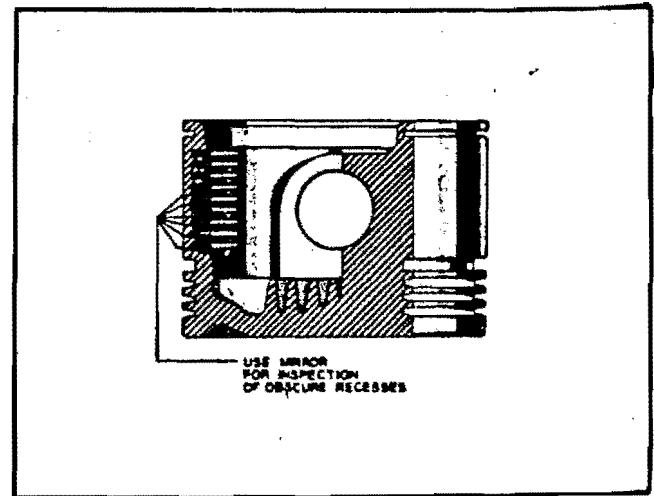
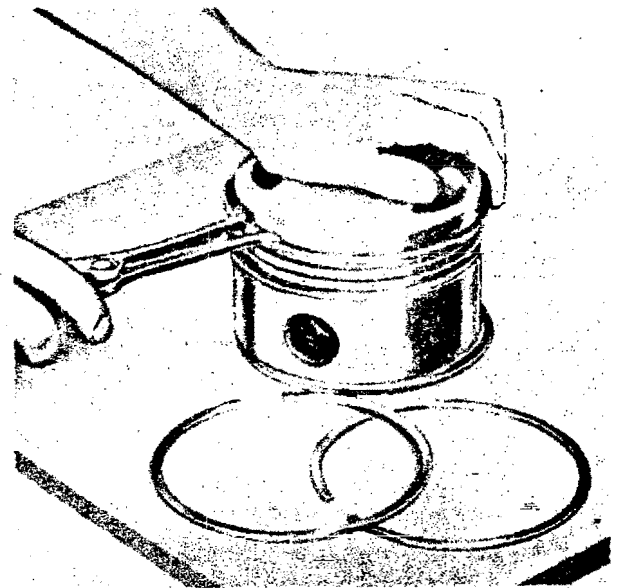
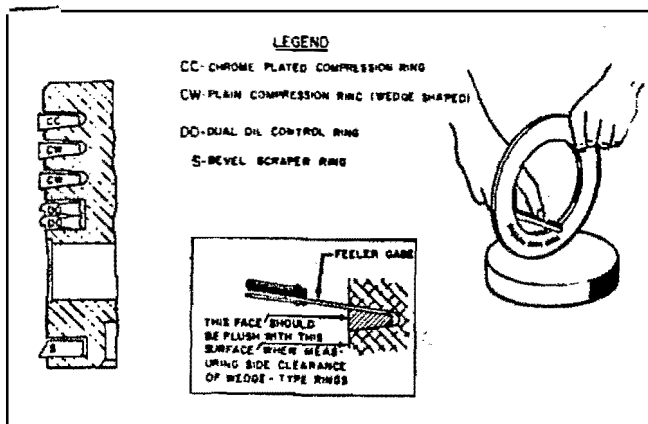

Figure 7-71. Inspecting Pistons
Figure 7-72. Removing Pistonrings
Figure 7-73. Pistonring Gaps
**7-82. PISTONS.** Inspect the pistons [Figure 7-71] for cracked heads and skirts, broken or distorted ring lands, scored or worn pistonpin holes, excessive carbon deposits, broken rings, or rings seized in the grooves. Rings may be removed with PWA-1791 Pliers [Figure 7-72]. Clean ring lands. Inspect piston head for dishing. Check the width of the grooves by measuring the side clearance of standard size rings. Check the pistonring end clearance [Figure 7-73]. Replace piston and rings together with cylinder if necessary, the rings of which have been lapped.